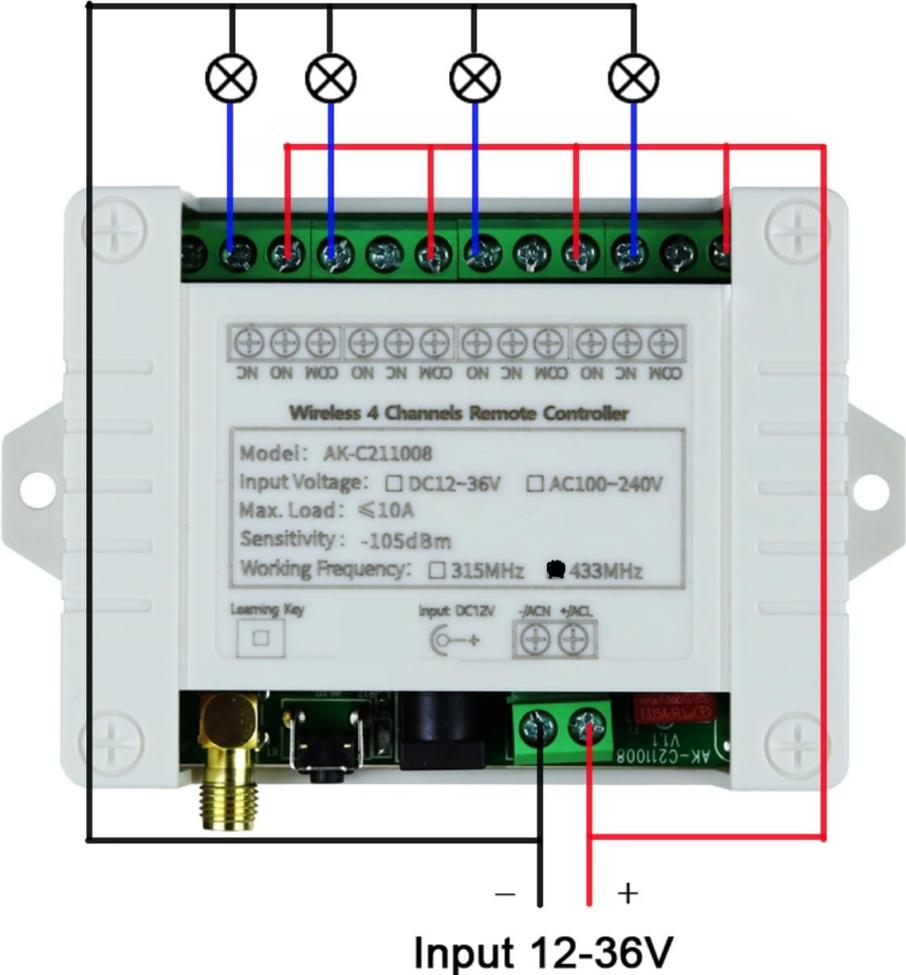

Figure 4: Output 12-36V voltage wiring diagram. This configuration provides switched DC voltage to the connected loads.
- Review wiring connections according to the appropriate diagram (Figures 4, 5, 6).